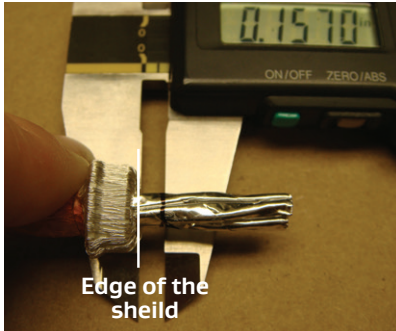

Figure 58: Marking the foil tape
8. Mark the foil tape of each twisted pair at 0.157 inches $\pm$ 0.025 inches from the edge of the braid wire (Figure 58).